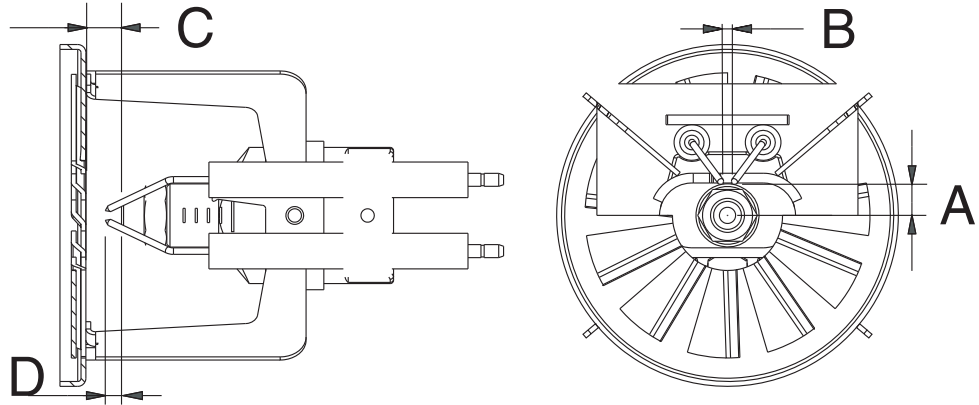
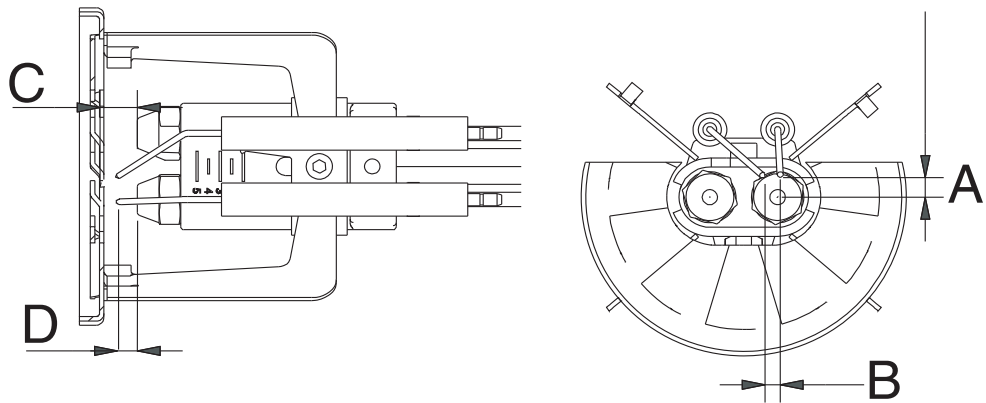

Fig. 34
Fig. 35
- disassemble, check and clean of the combustion head. When re-assembling carefully observe the measures quoted in Fig. 35;
To ensure a good ignition, respect the measures (in mm) in Fig. 34 - Fig. 35.